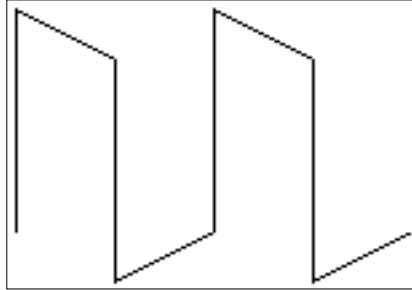
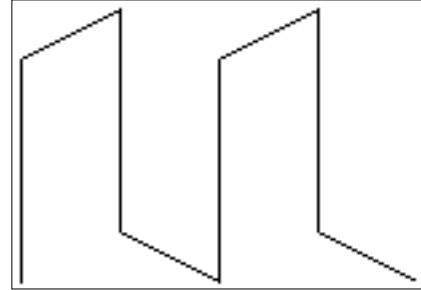

Figure 4-1 Mod Under (increase level)
Figure 4-2 Mod Over (decrease level)
2. Select Tx Deviation and Modulation Balance - current channel (O)
7. Adjust the Reference Deviation digital potentiometer until the top of the waveform is flat. If the waveform top droops increase the level (see Figure 4-1) and if it peaks reduce the level (see Figure 4-2).